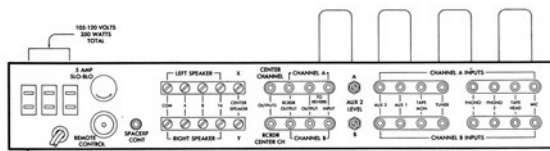

FIGURE 1. Rear panel of the X-1000
**SINGLE SPEAKER:** If you wish to connect only one speaker to the X-1000 temporarily, connect one of the speaker leads to the Left Speaker terminal lug marked COM (See Figure 1), and the other speaker lead to the 4, 8, or 16 terminal lug, depending on the impedance of your loudspeaker. Then connect an 8 to 10-ohm resistor, rated at a minimum of 10 watts between the "COM" and "4" lugs of the Right Speaker terminal strip, and turn the balance control fully counter-clockwise.
If you are using an FM-AM stereophonic tuner, the FM output should be connected to the Channel A TUNER input jack on the X-1000 and the AM output should be connected to the Channel B TUNER input jack. FM-AM monophonic tuners and FM-only tuners should be connected to the Channel A input jack marked TUNER. FM-Stereo-Multiplex Tuners should be connected to Channel A and Channel B TUNER input jacks. (See Figure 1.)